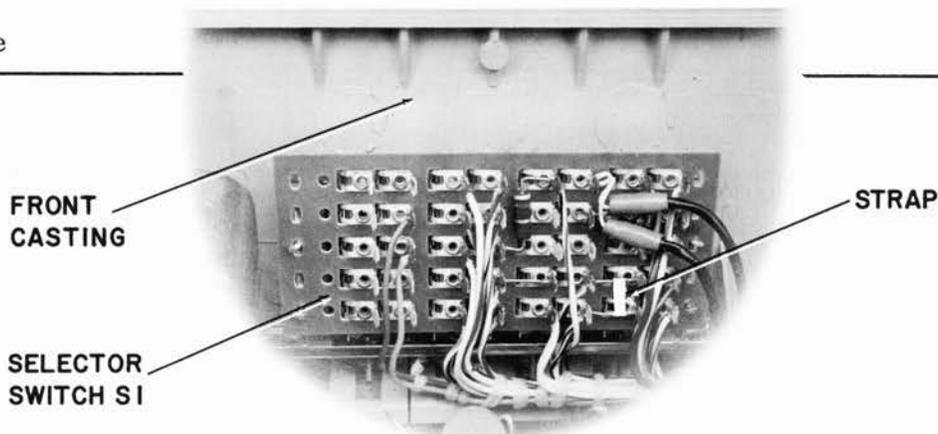

FIGURE 12 CALLING PARTY CONTROL DISABLE STRAP
- c. Disable the Calling Party Control circuit by installing a strap as shown in fig. 12.